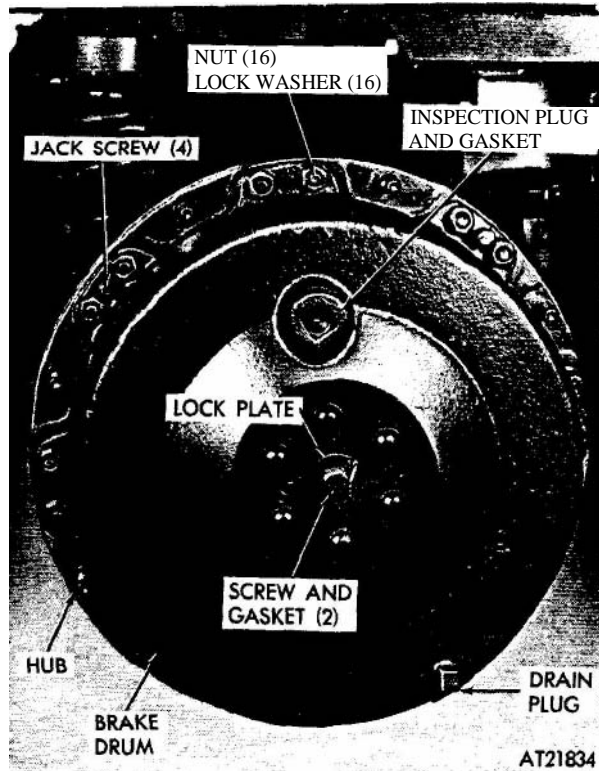

Figure 2-181. Brake drum removal and installation.
(5) Remove stub axle by removing screw, lock plate, and two gaskets securing stub axle to brake drum (fig 2-181).
(6) If deflector or seal are damaged replace per *b*. below.